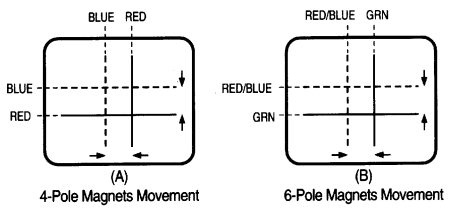

FIG. 1 CENTER CONVERGENCE BY CONVERGENCE MAGNETS
- a. Locate the pair of 4 pole magnet rings. Rotate individual rings (Change spacing between tabs) to converge the vertical red and blue lines. Rotate the pair of rings (maintaining spacing between tabs) to converge the horizontal red and blue lines. (Refer to fig. 1 (A))
- b. After completing red and blue centre convergence, locate the pair of 6 pole magnet rings. Rotage individual rings (change spacing between tabs) to converge the vertical red and blue (Magenta) and green lines. Rotate the pair of rings (maintaining spacing between tabs) to converge the horizontal red and blue (Magenta) and green lines. (Refer to Fig. 1(B))